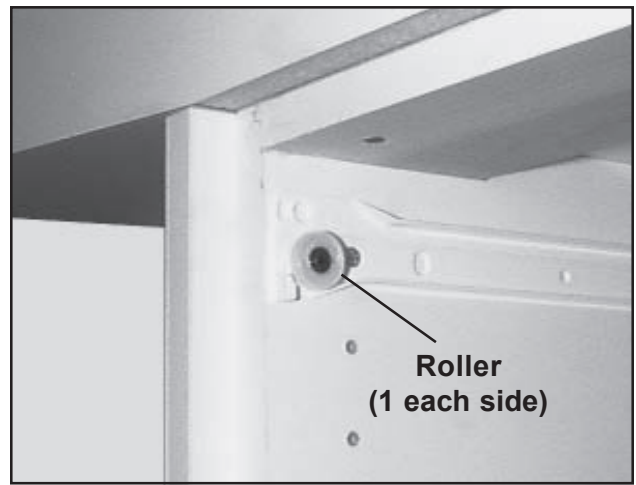

Figure 18. Roller on Cabinet Wall
3. To replace the drawer, slide the rollers at the rear of the drawer (Figure 18) over the rollers on the cabinet wall (Figure 19), then gently push the drawer in.